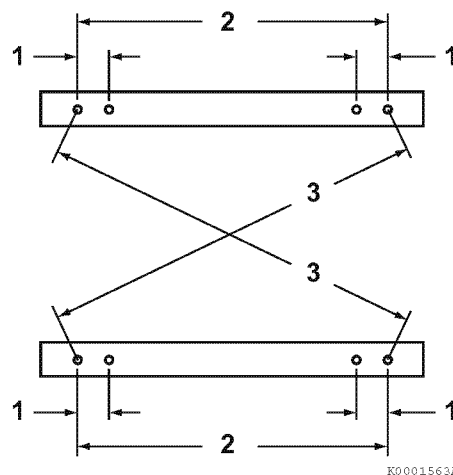

Figure 5-11
7. Measure the cross-dimensions between the stringers in each stringer set (3, Figure 5-11). These measurements should be equal. If not, modify the stringer system as needed.
8. Measure the stringer length mounting hole dimensions center-to-center for each stringer set (2, **Figure 5-11**). These measurements should be equal. If not, modify the stringer system as needed.
9. Measure the individual mounting hole dimensions center-to-center for each stringer set (1, **Figure 5-11**). These measurements should be equal. If not, modify the stringer system as needed.